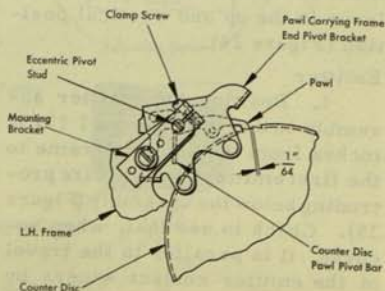

Figure 21
2. Adjust the pawl carrier frame eccentric pivot studs on both sides so that the pawls have $1/64$ " between the toe of the pawls and the face of the counter discs tooth (Figure 21) with the counter discs